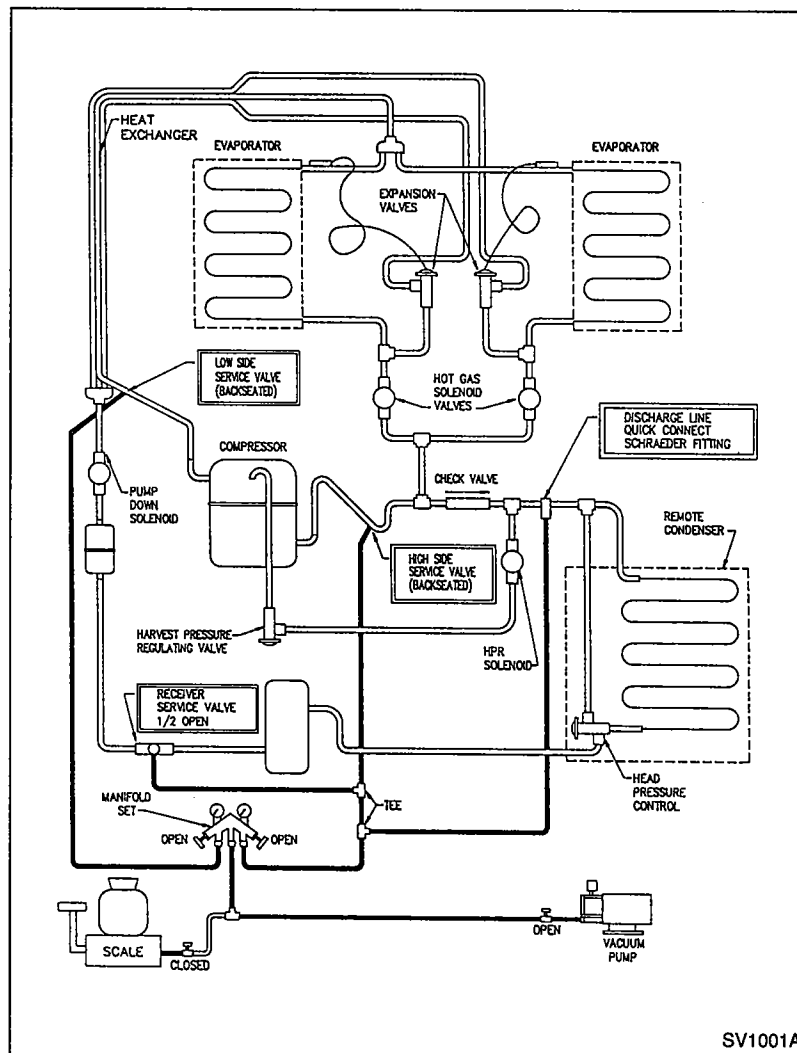

FIGURE 73. EVACUATION OF REMOTE SYSTEMS
1. Evacuation of remote systems requires connection at four points for complete evacuation as follows. Refer to Figure 73.
2. Install manifold gauges, scale and two-stage vacuum pump as shown on Figure 73.